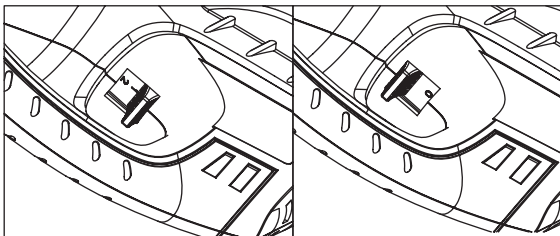

Fig.6
- Always move the Speed Control Switch (4) to the “O” Off position before insertion or removal of the battery pack.
- To remove the battery pack, withdraw it from the tool while pulling the Battery Release Button (7) down.
- To insert the battery pack, groove along the handle and insert in the full position, until the Battery Release Button (7) bounce back to normal position again.
4. starting/stopping (fig. 6)